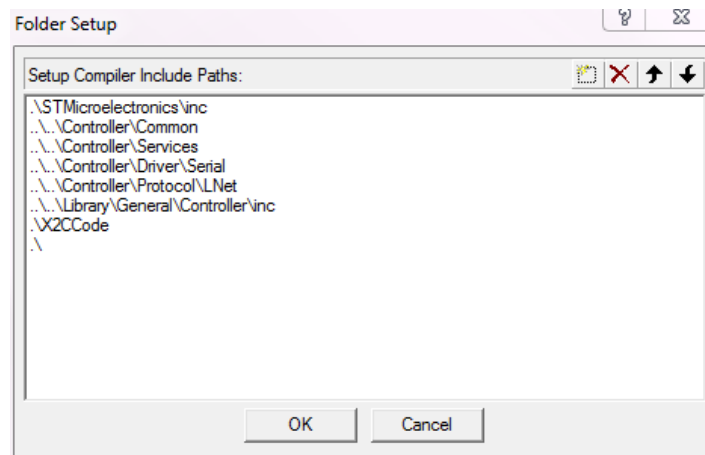

Figure 19: Keil μ Vision include paths setting
3. In the *Keil μ Vision* file structure of the *Blinky* demo project are two virtual folders *Blocks* and *Core*, which are linked relatively to the *X2C* directory. If the *Blinky* demo project is copied/moved to a different location, the include paths as seen in Figure 19 have to be adapted.